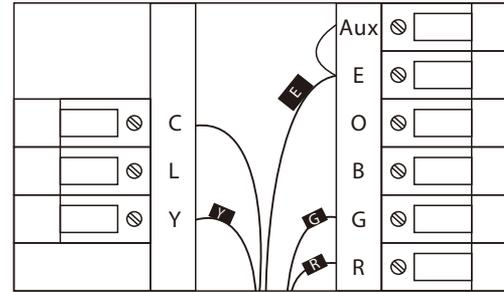

Figure 10
9. Insert stripped, labeled wires into matching wire terminals. See "Wiring Diagrams", Figure 10/11.